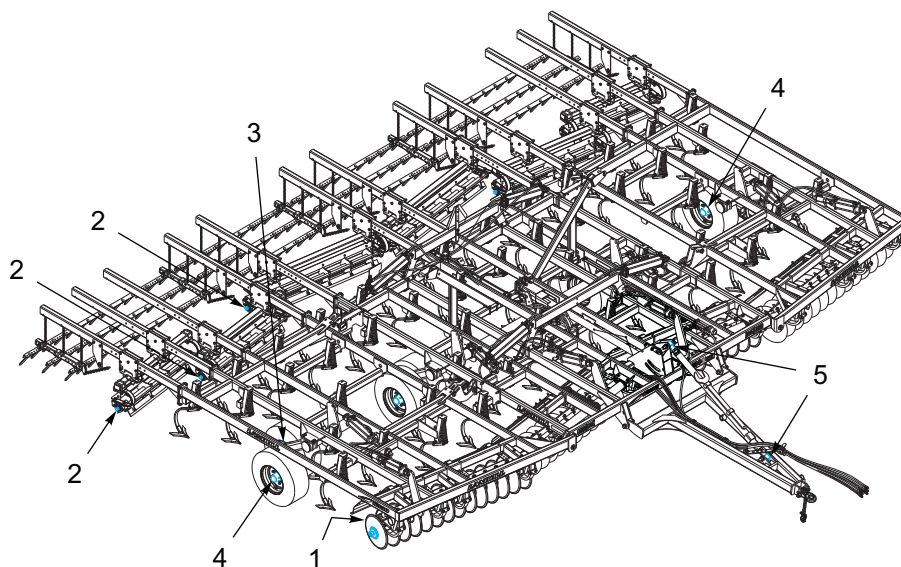

Figure 5-3: Lubrication Schedule
1. A proper maintenance schedule will insure a long operating life and peak performance. Performing the following lubrication will ensure maximum operating life of the Finisholl **See Table 5-1 and See Figure 5-3.**